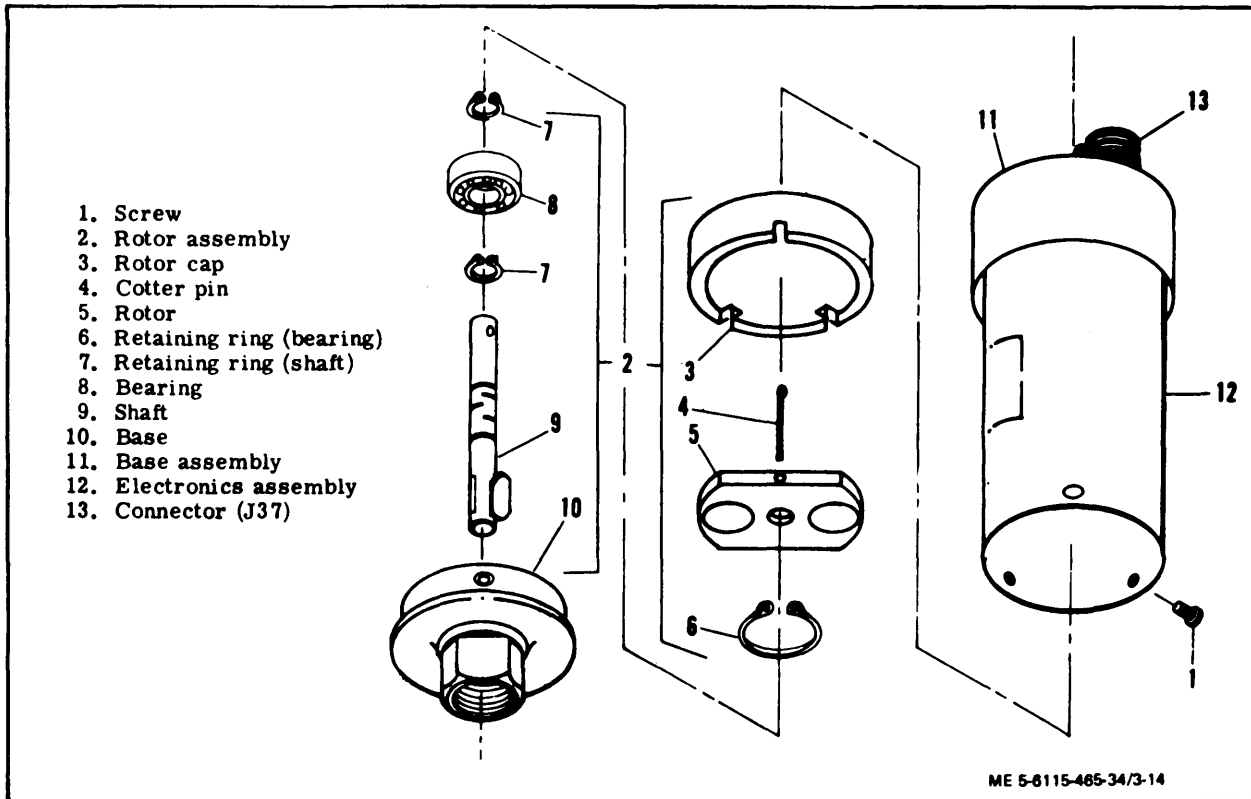

Figure 3-14. Speed Switch, Exploded View
(1) Remove screws (1, figure 3-14) to remove rotor assembly (2) from electronics assembly (12).
(2) Remove rotor cap (3), cotter pin (4), and rotor (5).
(3) Remove retaining rings (6 and 7), bearing (8), shaft (9) and base (10).